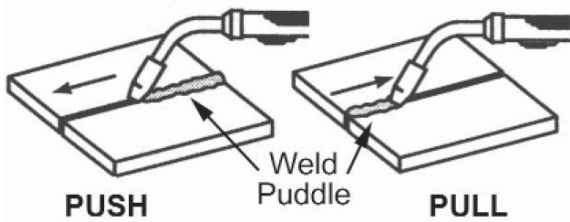

Figure 12. Travel Direction
- TRAVEL DIRECTION is the direction the gun is moved along the weld joint in relation to the weld puddle. The gun is either PUSHED (see Figure 12) into the weld puddle or PULLED away from the weld puddle.